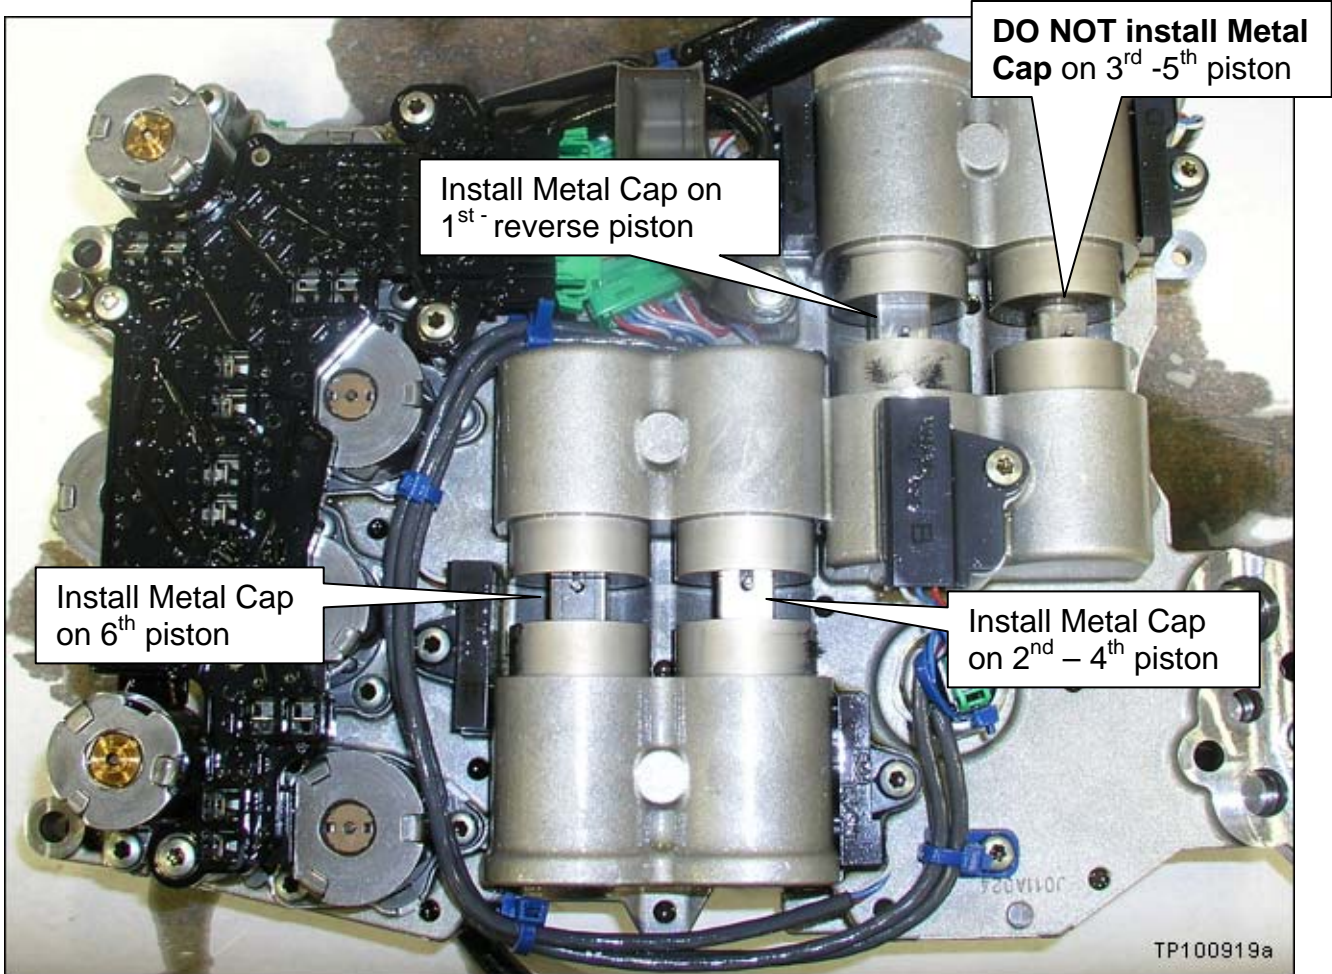

Figure 14
- Install Metal Caps on the 3 pistons shown in Figure 14.